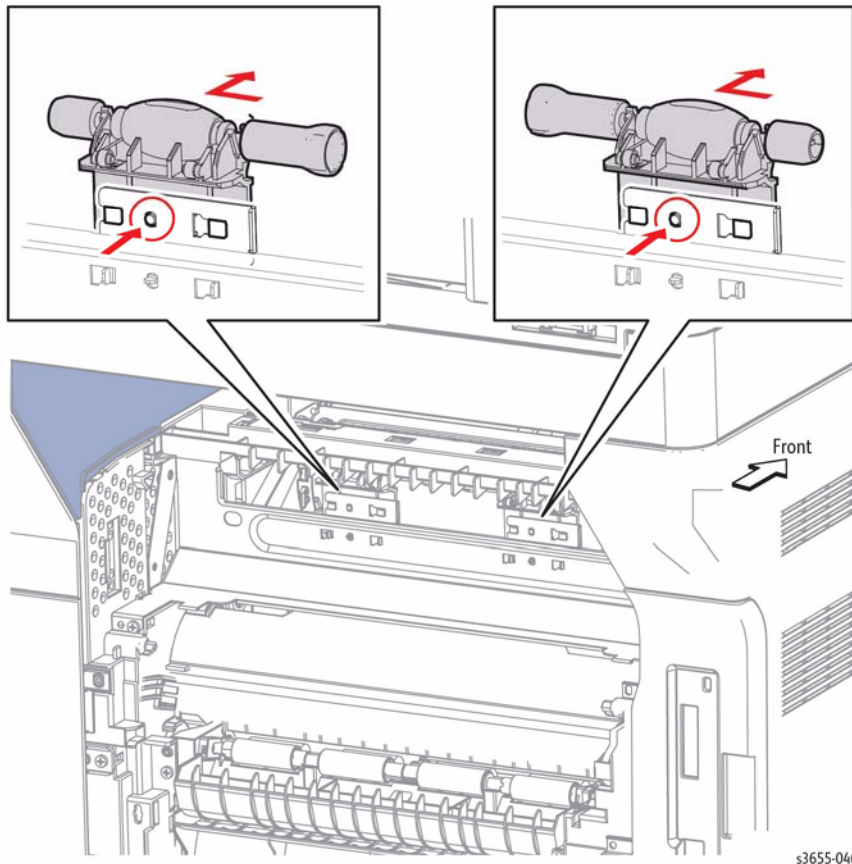

Figure 1 Remove the Pinch Rollers
2. Refer to Figure 1 to remove the pinch rollers by carefully releasing the clips and moving them in the direction indicated.